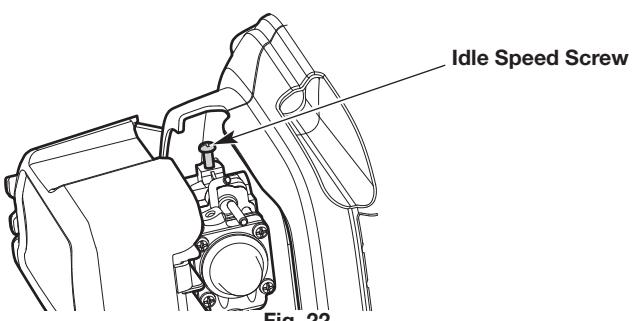

Fig. 22
- If the engine stops, increase the idle speed. Use a small Phillips screwdriver to turn the idle speed screw clockwise, 1/8 of a turn at a time, until the engine idles smoothly (Fig. 22).
- If the tines rotate when the engine idles, reduce the idle speed. Turn the idle speed screw counterclockwise, 1/8 of a turn at a time, until the tines stop moving (Fig. 22).